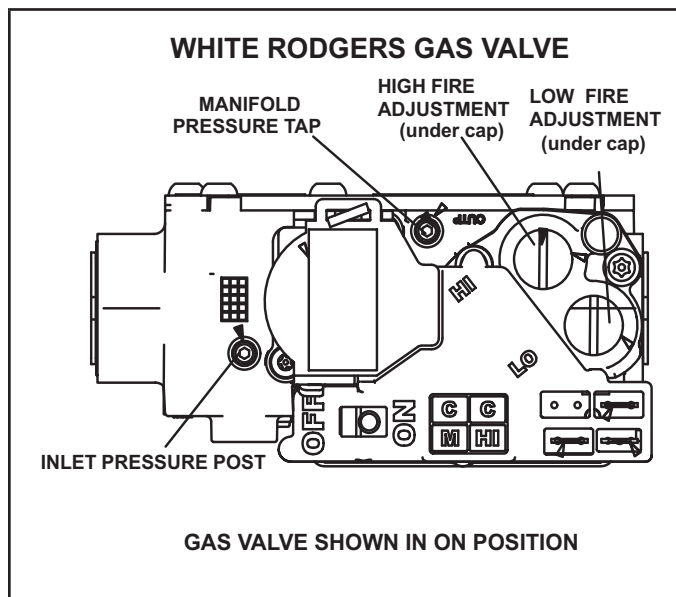

FIGURE 66
Gas Valve Operation (FIGURE 66)
- 6 - Move gas valve switch to OFF. See FIGURE 66.
- 8 - Move gas valve switch to ON. See FIGURE 66.
An inlet pressure post located on the gas valve provides access to the supply pressure. See FIGURE 66. Back out the 3/32 hex screw one turn, connect a piece of 5/16 tubing and connect to a manometer to measure supply pressure. See TABLE 33 for supply line pressure.
A manifold pressure post located on the gas valve provides access to the manifold pressure. See FIGURE 66. Back out the 3/32 hex screw one turn, connect a piece of 5/16 tubing and connect to a manometer to measure manifold pressure.
- 5 - If necessary, make adjustments. FIGURE 66 shows location of high fire and low fire adjustment screws.